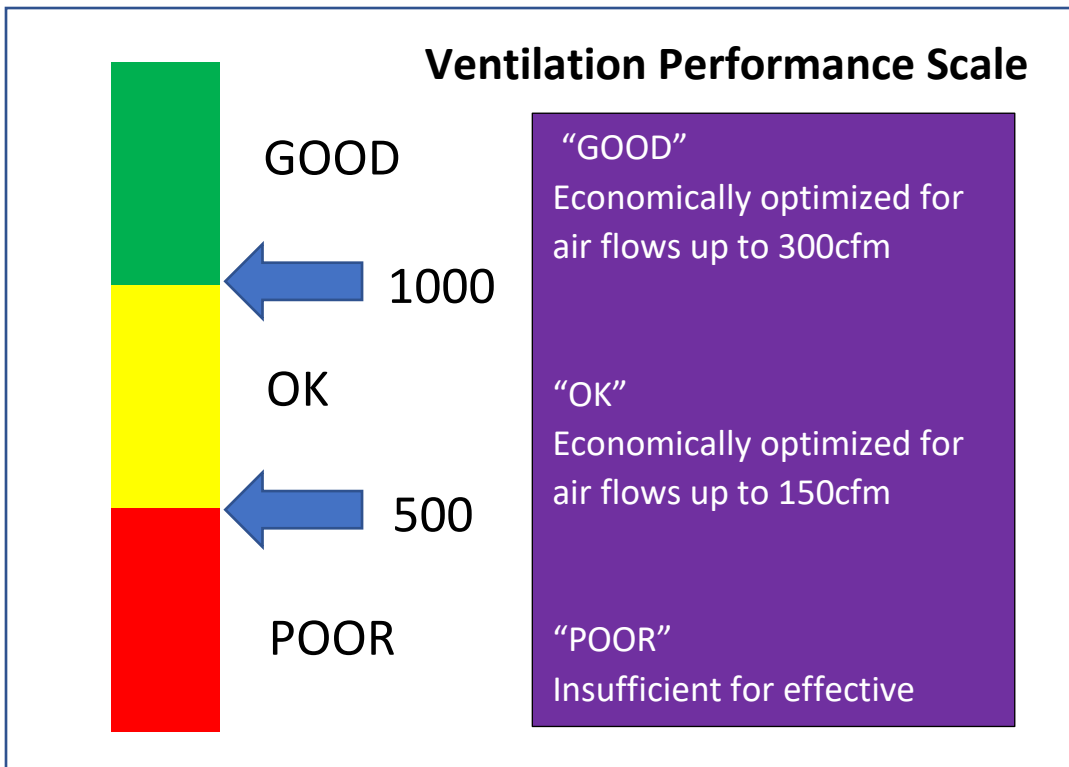

Figure 2 Duct performance test scale.
- 5) Figure 2 describes the performance of the duct system.